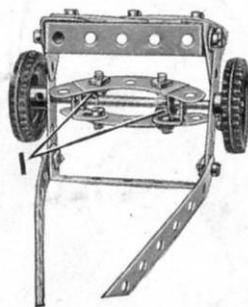

Fig. O.10a
Two Angle Brackets are bolted to each of the Curved Strips forming the cutting blades. The wheel axle is then pushed through the four Angle Brackets and Spring Clips (1), shown in Fig. O.10a, are used to hold the blades in place.